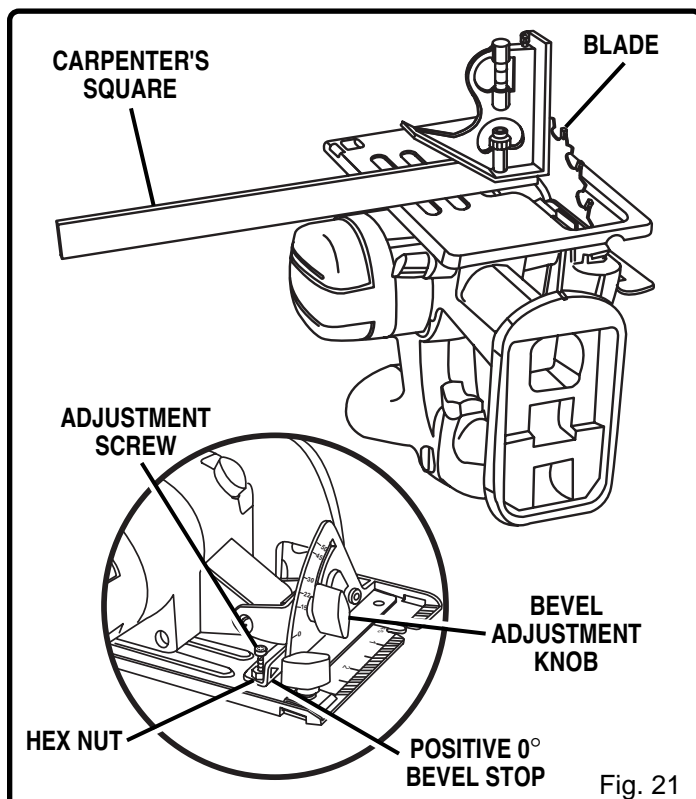

Fig. 21
See Figure 21.
- Place your saw in an upside down position on workbench. See Figure 21.